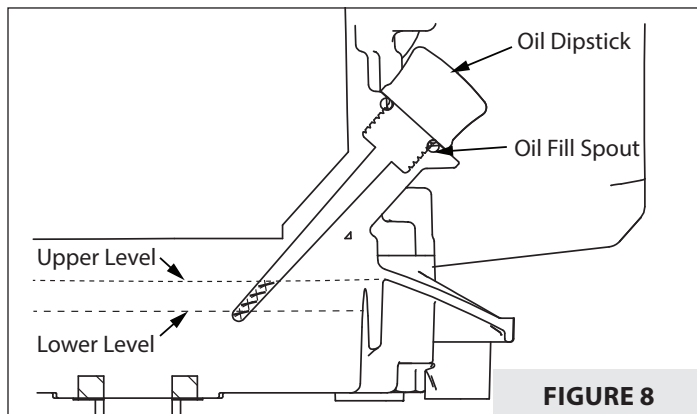

FIGURE 8
SEE FIGURE 8. DO NOT OVERFILL. For proper oil capacity, see the engine manufacturer’s instructions.
- Reinsert dipstick and tighten. **SEE FIGURE 8.**